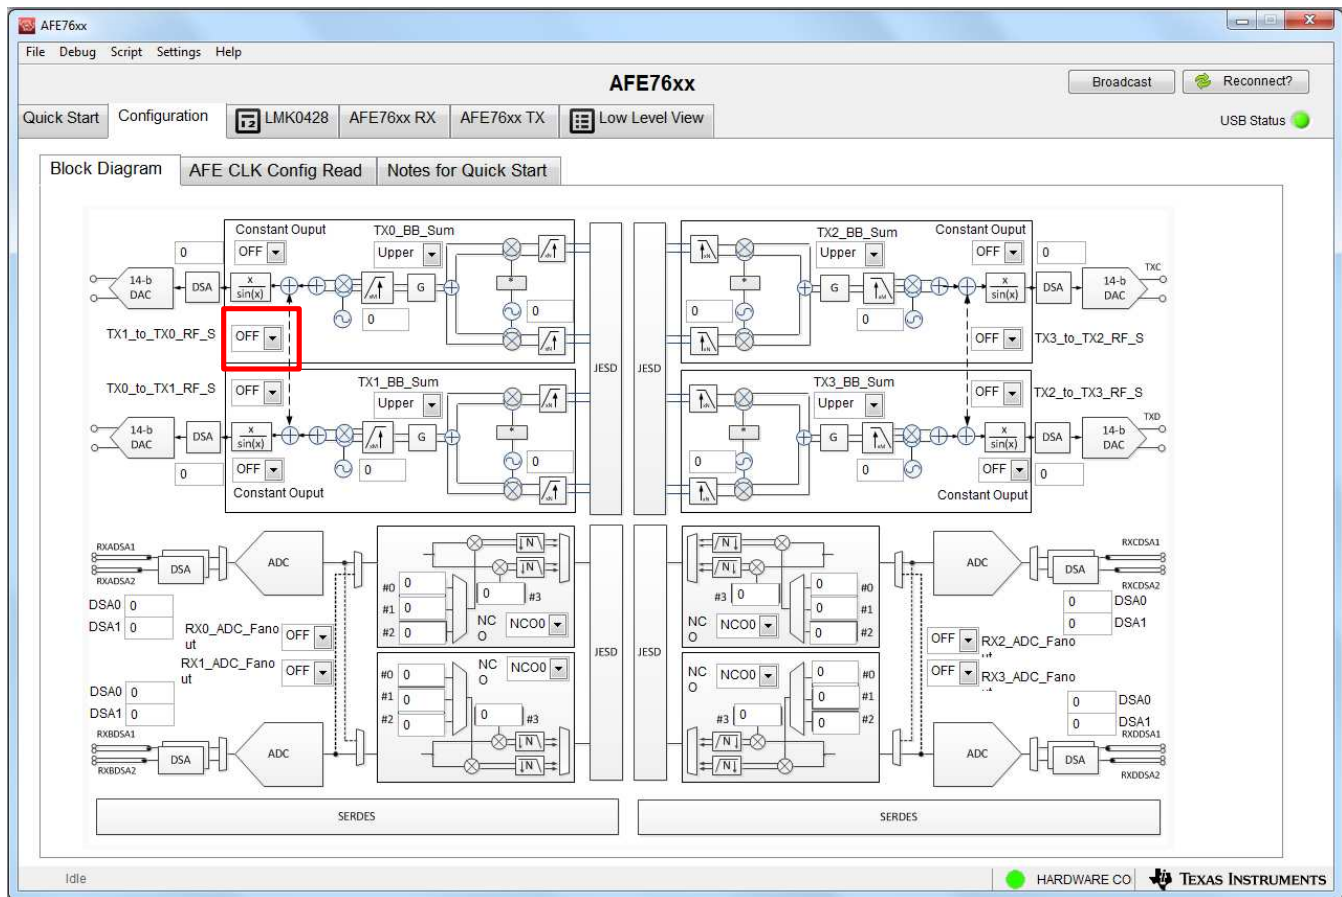

Figure 14. TXDAC Summing of TXDUC Paths
- Use the digital summer to add the TX0 and TX1 data onto the TXA channel output. To do so, adjust the TX0 and TX1 RF frequency, so that they do not overlap. Then, make the following selection on the overview GUI (see Figure 14).